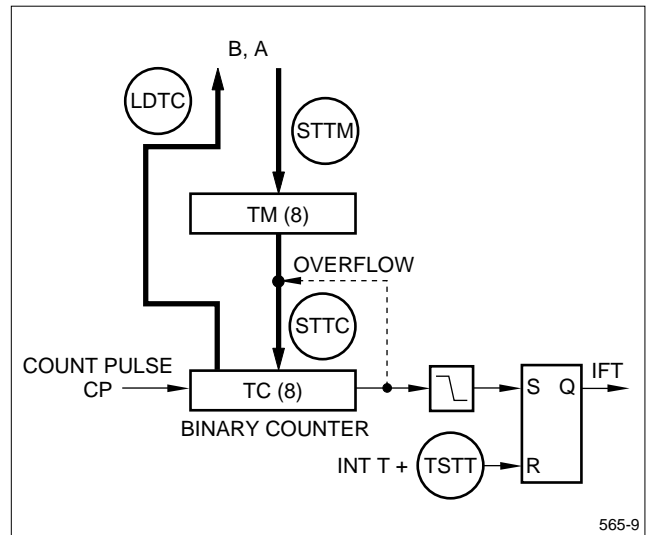

Figure 7. Timer/Counter
The count register is an 8-bit incremental binary counter. It is incremented by one at the falling edge of its count pulse (CP) input. If the count register overflows, the timer interrupt request flag IFT is set, and the contents of the modulo register (TM) are loaded into the count register (see Figure 7).